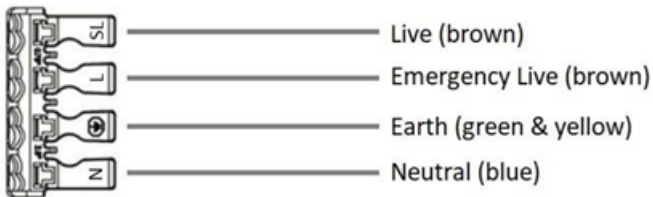

Fig. 2
- Ensuring correct polarity is observed, carefully wire as shown in Fig. 2. Two cables can be inserted into the push-fit terminal block in order to achieve loop-in/loop-out wiring